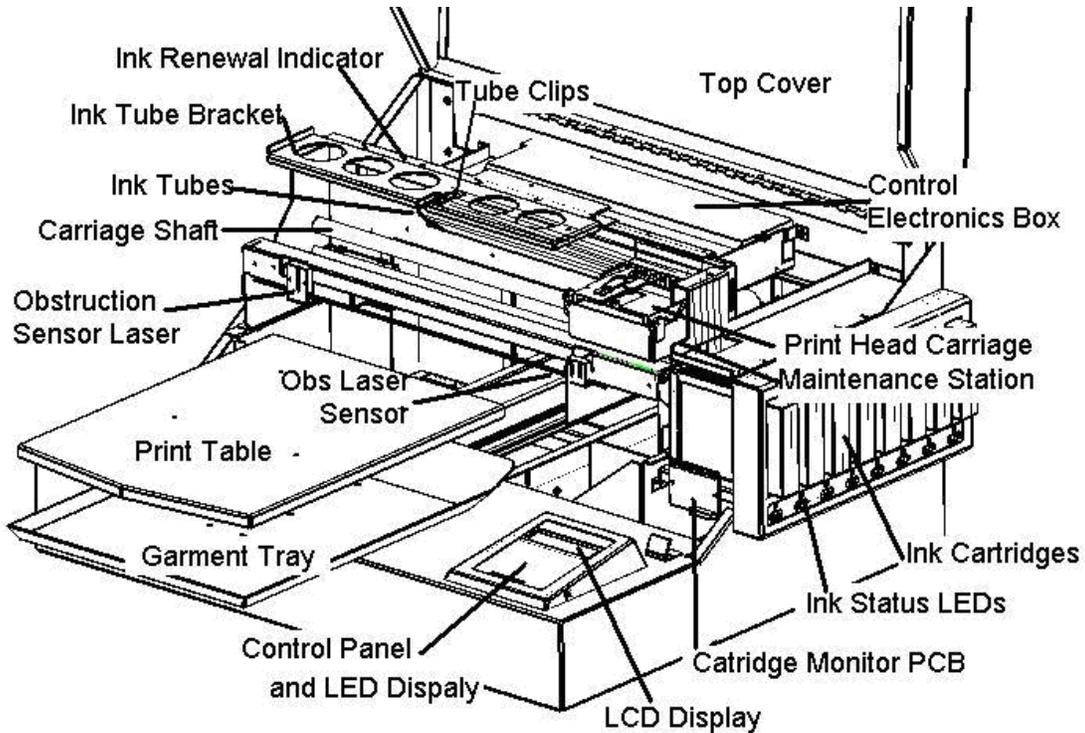

Figure 1.1 MelcoJet Printer
It is especially important to meet the Relative Humidity (RH) requirement for good ink flow. If the environment is dry (below 50% RH) the risk of ink drying at the Printhead nozzles subsequently clogging the Printhead is high. (**!** - **A CLOGGED PRINTHEAD DUE TO THIS CONDITION IS NOT COVERED UNDER MANUFACTURERS WARRANTY. IT IS UP TO THE OWNER/USER TO PROVIDE NECESSARY RH CONDITIONS**). Keep an electronic hygrometer close to the printer, preferably on the tray below the print table. Inexpensive electronic hygrometers are available in electronic stores, department stores as well as hardware stores, but they may be inaccurate. Most electronic hygrometers are accurate at mid to high humidity range, but show inaccuracy below 40% RH. It will be necessary to have them calibrated regularly. Figure 1.1 is an example of an electronic Hygrometer.